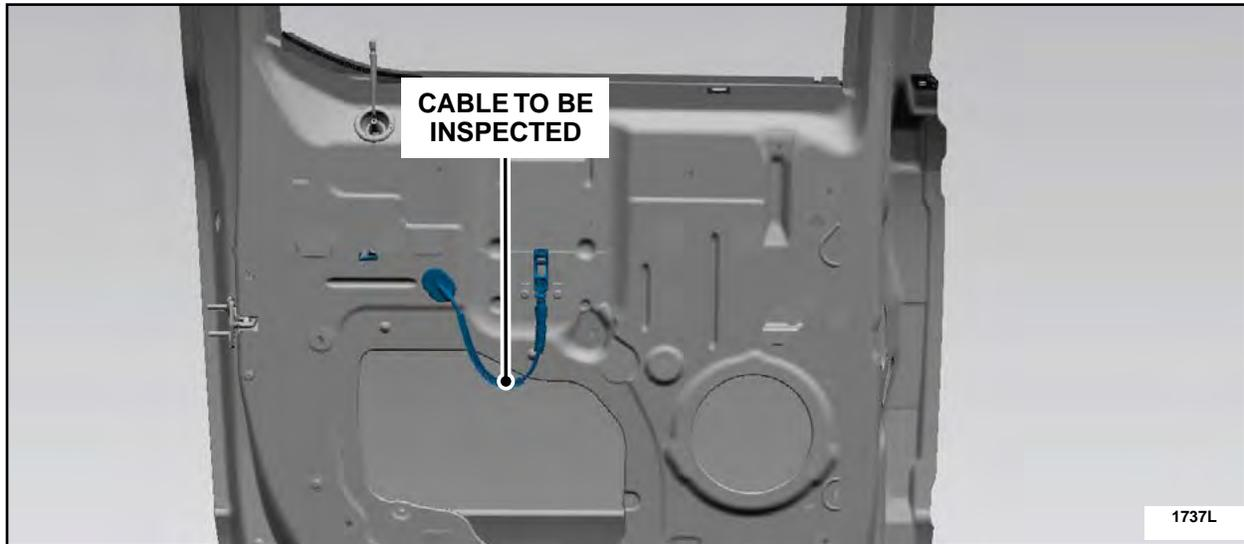

FIGURE 85
12. Inspect the interior door handle to latch cable for kinking. See Figure 85.